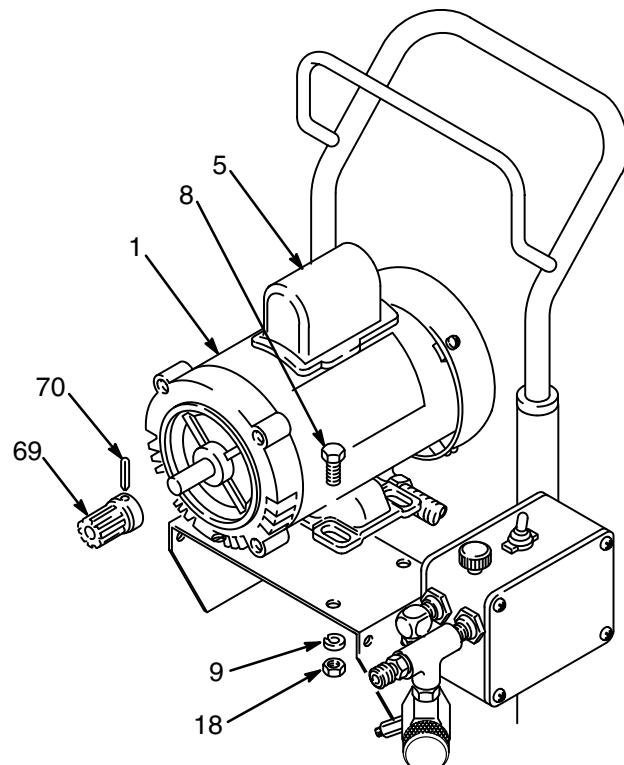

Fig 7
Unplug the sprayer. Remove the cover of the capacitor (5). See Fig 7. Remove the flag connectors from the old capacitor. Connect the flag connectors of the new capacitor and replace the cover.
Drive out the pin (70) and remove the gear (69). See Fig 7.
Unscrew the nuts on both ends of the conduit (76) from the connector (75). Remove the screws (8), nuts (18) and lockwashers (9). See Fig 7. Lift the motor (1) while carefully guiding the wires through the connector in the control box. Remove the conduit (76) from the wires.